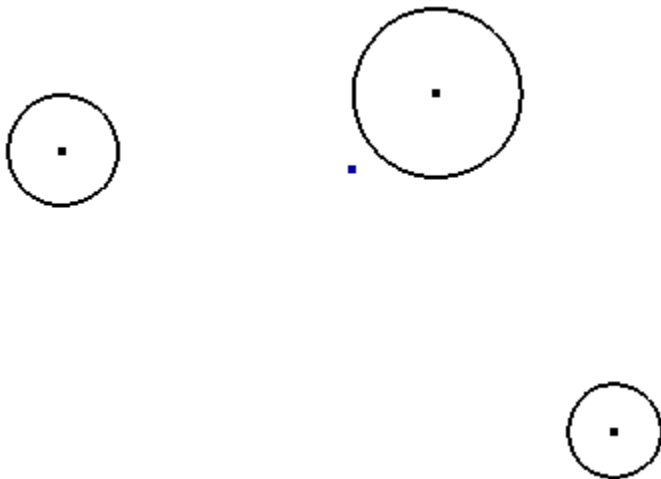

Figure 4: Click and drag tangencies.
2. Click the leftmost circle near the point shown in Figure 4 and drag towards the larger circle. You must click and drag, not click and release. Move the cursor over the larger circle until a second Tangent icon appears. Release the mouse button to complete the line.